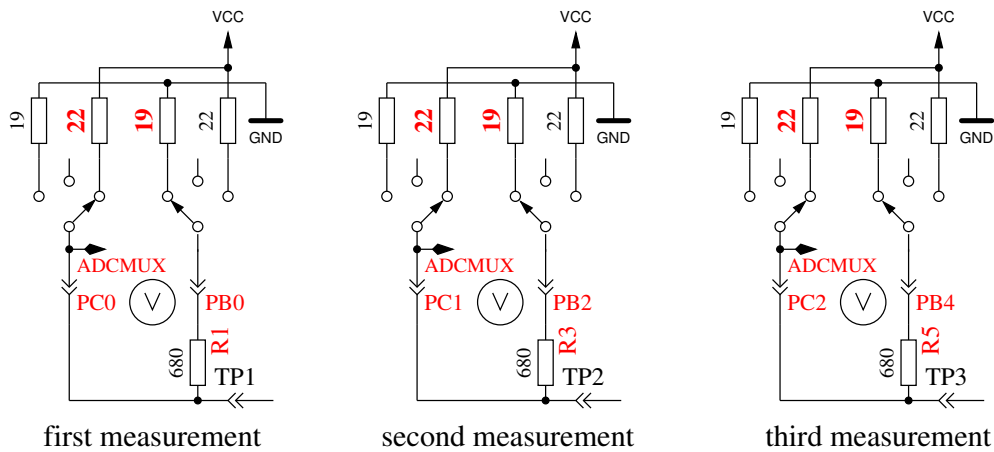

Figure 5.46: Measurement of internal resistance of Port C switched to VCC
8. **Measuring of internal resistance of port outputs switched to the VCC (+)signal.** The needed current is generated with to GND connected 680Ω resistors . It are the same measurements as those in test 7 to the other side as you can see in Figure 5.46. With the following steps the resistance is computed: To get the current, the following is computed: $(VCC - (resultoftest7) - (resultoftest8))/680$. To get both resistor values, the voltage (result of test 7 or 8) is divided by this current. The result for this test will then be notified in row 1 with the text "RI_Hi=", the resistance value (Ω) to the GND side is displayed in row 2 with the text "RI_Lo=". Both results will be written to the EEprom memory and will be used for further measurement.